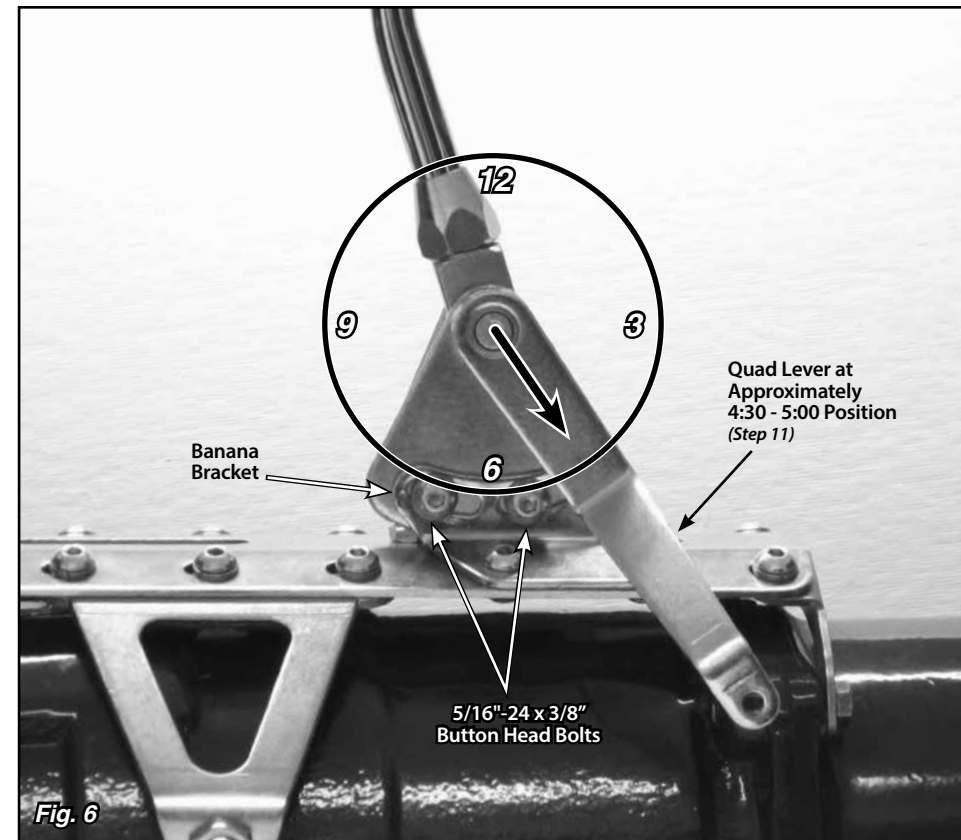

Fig. 6
**Step 10:** Make sure the two 5/16"-24 x 3/8" button head bolts and lock washers that attach the driver side banana bracket to the shifter assembly (in the curved, slotted holes) are tight. Before tightening the shifter assembly down to the main plate, move the shifter lever through all the gear positions. Make sure that the shifter lever and knob will not come in contact with the dash or the seat. The shifter assembly can be tilted forward or backward if needed by loosening the 5/16"-24 x 3/8" button head bolts and lock washers in the curved, slotted holes in the driver side banana bracket. **Fig. 6**
**Step 11:** Put the shifter lever into the Park position and check the position of the quad lever. It should be pointing to approximately the 4:30 - 5:00 position. If it is not, loosen the set screw in the top of the quad lever with a 1/8" Allen wrench and slide the quad lever off of the shaft. Reposition it on the shaft at approximately the 4:30 - 5:00 position, and retighten the set screw. **Fig. 6**